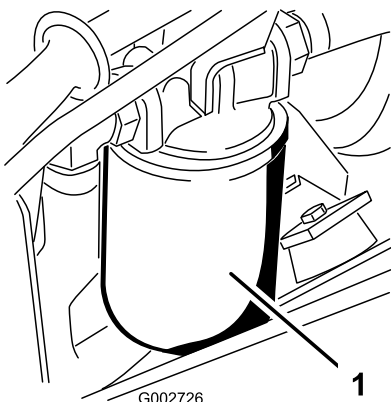

Figure 40
3. Place a drain pan under the hydraulic oil filter which is located on the left side of the machine (Figure 40).